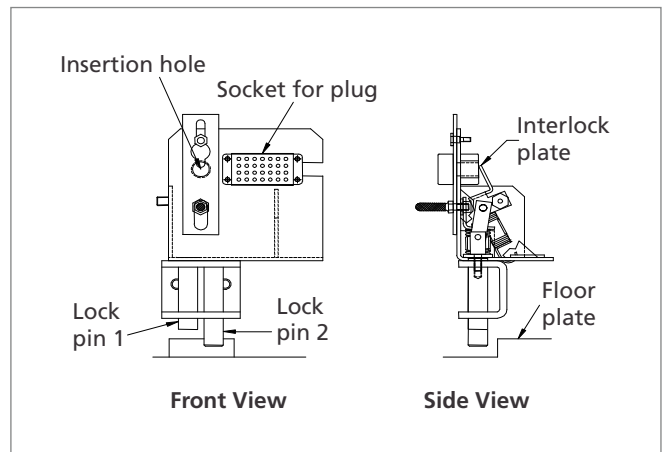

Figure 14 : DISCONNECTED position of panel
Figure 14 shows the condition in which the charging is
- During removal of the plug from the uncompleted connection, lock pins 1 and 2 return to the position shown in figure 14.